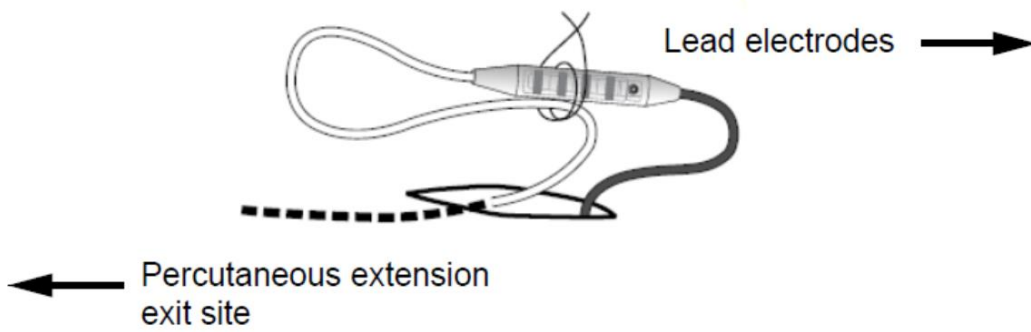

Figure 1. Suture looped twice around the percutaneous extension connector and extension body
1. Using a 2-0 or smaller nonabsorbable suture, loop the suture around the percutaneous connector and percutaneous extension body (Figure 1)